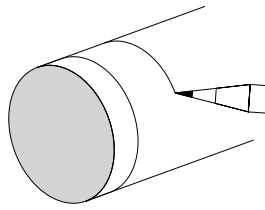

Figure 20
3. Draw a line around the tube 1/4" above the alignment ring (Figure 20).